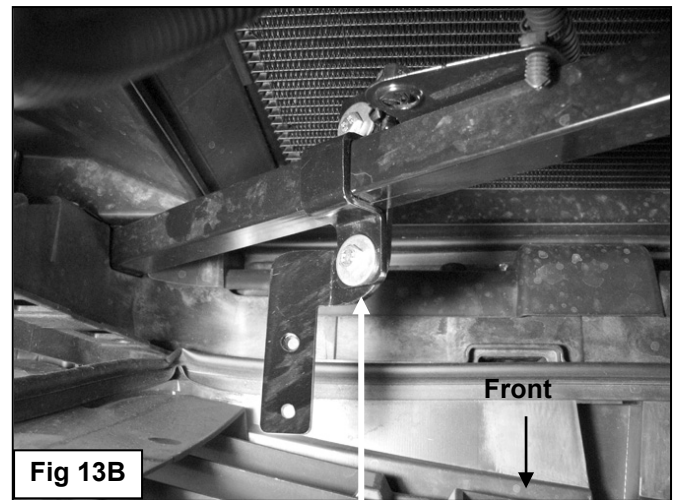

Fig 13B
10. Locate the square tube support braces running up at an angle from the top of the frame channel to the bottom of the hood release mechanism, **(Figures 13B, 15 & 16)**. Select the driver side Inner Top Bracket and (1) Backing Plate, **(Figure 13A)**. Hold the Inner Bracket up to the bottom of the brace tube with the Backing Plate over the top. Bolt the Brackets together around the square tube with (2) 6mm x 25mm Hex Bolts, (2) 6mm Lock Washers and (2) 6mm Flat Washers, **(Figure 13B)**. Leave loose at this time.